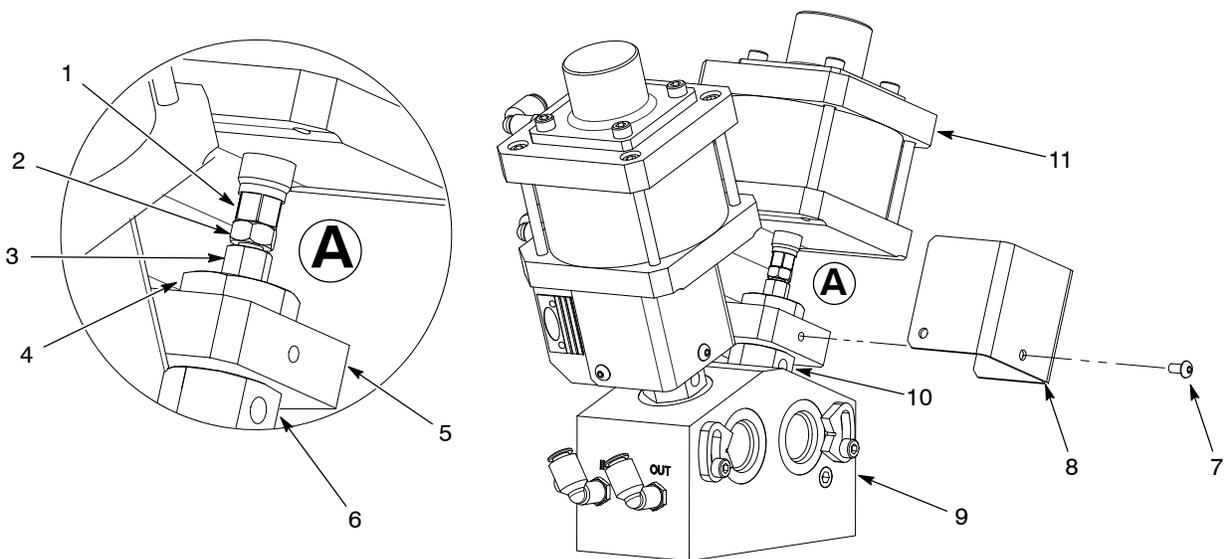

Figure 3 Replacing the Bonnet Assembly
1. See Figure 3. Remove the screws (7) securing the guard (8) to the yoke (5).
2. Hold the air shaft hex (1) with a 10-mm wrench and loosen the jam nut (2) with a second 10-mm wrench.
3. Using a 1-in. open-end wrench, unscrew the retaining nut (4) securing the yoke (5) onto the bonnet hex (6).
4. Hold the air shaft hex (1) with a 10-mm wrench and apply a second 10-mm wrench to the coupler nut (3). Unscrew the coupler nut to remove the air cylinder assembly (11).
5. Hold the bonnet hex (6) with a 1-in. open-end wrench and unscrew the bonnet from the body (9). Discard the old bonnet.
1. See Figure 3. Coat the new bonnet O-ring and threads with PTFE grease and thread it into the body (9). Tighten the bonnet to 54.2 N•m (40 ft-lb).
2. Lower the air cylinder assembly (10) with the retaining nut (4) held in place onto the bonnet hex (6).
3. Holding the coupler nut (3) in place, finger-tighten the retaining nut (4) onto the bonnet.
4. Using the coupler nut (3), screw the bonnet stem up into the air cylinder shaft at the air shaft hex (2) until it bottoms out. Do not over tighten using the coupler nut.
5. Using a 10-mm wrench to hold the air shaft hex (2), tighten the jam nut (3) into the air shaft hex using a second 10-mm wrench. Tighten the jam nut to 9 N•m (80 in.-lb).
6. Tighten the retaining nut (4) to 40.7 N•m (30 ft-lb).
7. Coat the screws (7) with Loctite 242. Install the guard (8) onto the yoke (5) and tighten the screws securely.